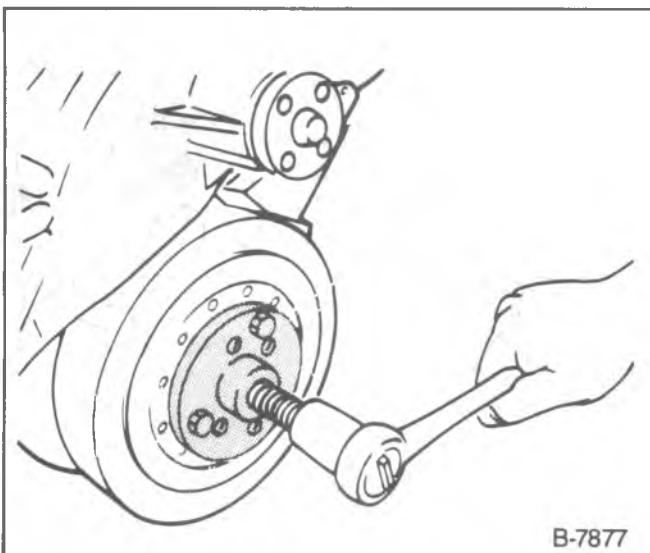

Figure 14—Removing the Torsional Damper
↔ Remove or Disconnect (Figure 14)
3. Torsional damper. Use J-23523-E (figure 14).